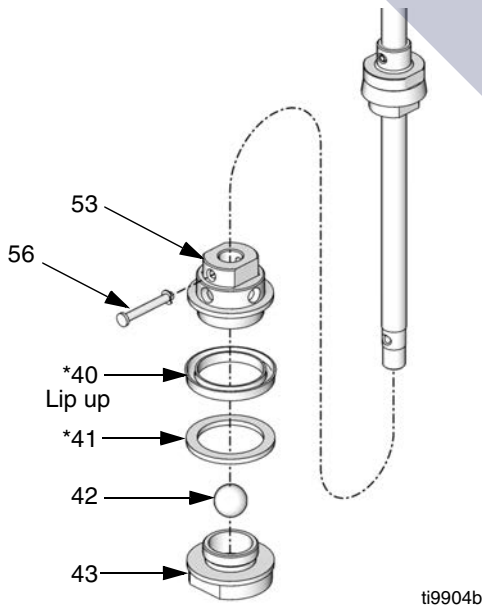

FIG. 20
8. Remove pin (56). Remove piston valve assembly. Unscrew piston valve (43) from piston housing (53). Remove wear ring (41*), u-cup (40*) and ball (42). Inspect all parts for damage. See FIG. 20.